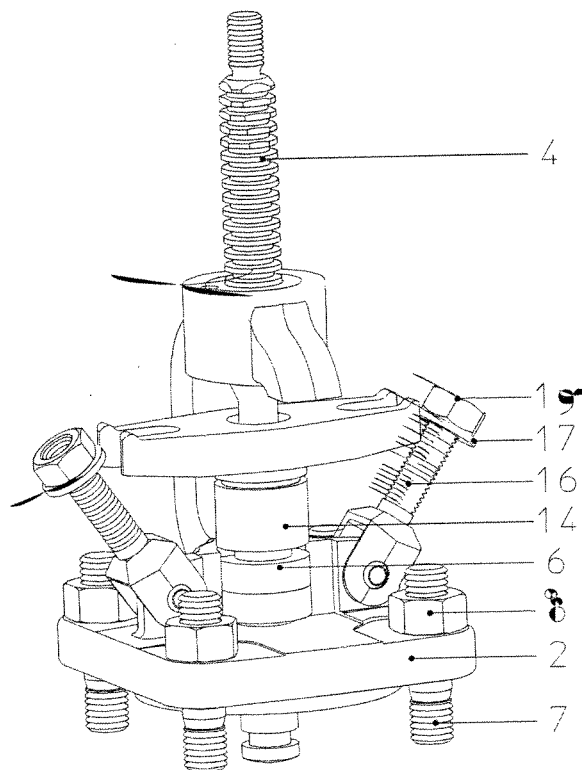

fig. 6: Pattern with hinged bolts
If necessary, renew packing in stuffing box seal (pos. 6). Observe warnings (Fig. 6)!